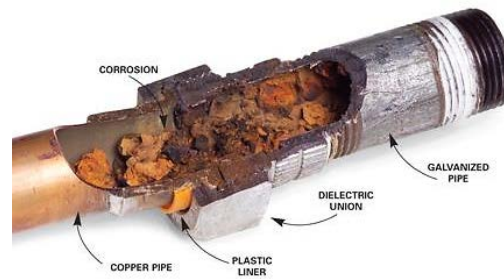

Figure 3 Galvanic Corrosion
physical conditions on the outside. A graphic example of such conditions is shown in Figure 3, where a dielectric union was used. Although dielectric unions are commonly used as a galvanic break, these fittings can leak under certain circumstances, meeting the three (3) conditions described previously that are necessary for galvanic corrosion to occur. Visual inspections can be further impaired when piping insulation is used. When insulation is removed from piping or equipment, moisture may penetrate under the insulation, creating conditions for corrosion to occur; however, because the corrosion is beneath the insulation, it isn't detectable by visual inspection and can be easily missed.